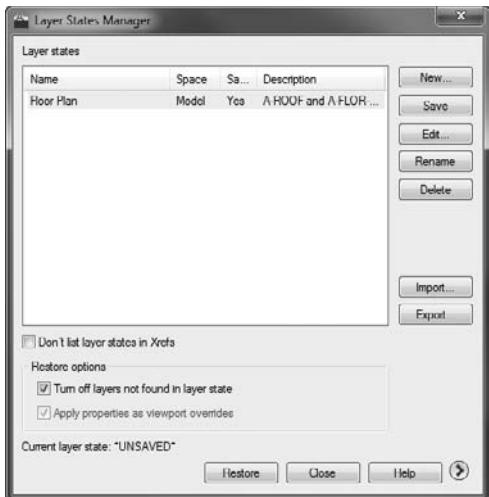

FIGURE 6.58 The Layer States Manager dialog box showing the new layer state
6. The new layer state appears in the Layer States Manager dialog box, as shown in Figure 6.58. Click the Close button to close the Layer States Manager dialog box.